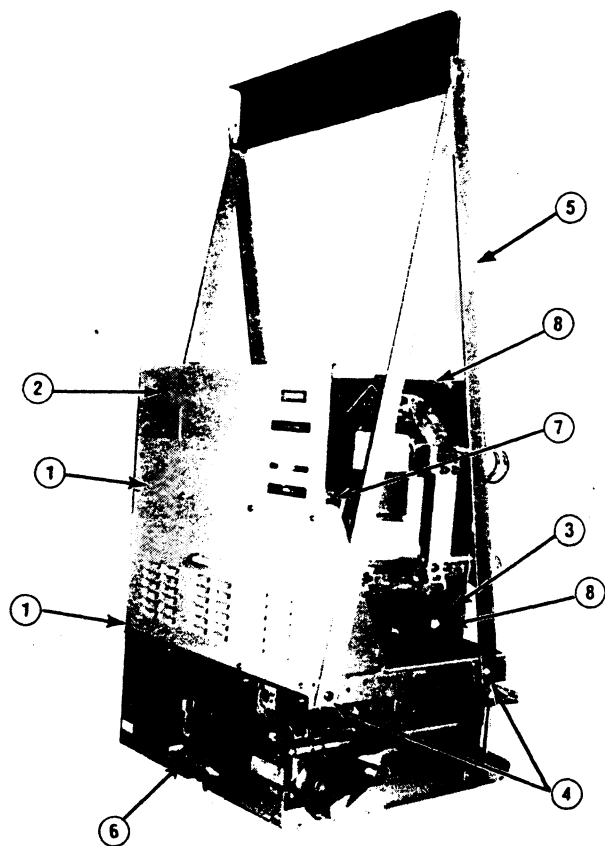

Fig. 1 — Circuit Breaker Assembly with Lifting Yoke Installed
Referring to Fig. 1, if it is necessary to raise or move the breaker, attach a lifting yoke (5) at points (4) on both sides of the truck, or a fifth wheel at point (6) to transport the breaker as required.
Inspect condition of circuit breaker vacuum interrupters and electrical connections prior to installing the circuit breaker into the switchboard. Even though each circuit breaker is completely adjusted and tested at the factory, shipping and handling conditions could cause defects. The front cover and interphase barriers (2 & 3, Fig. 1) must be removed for access to and inspection of the vacuum interrupters, and their associated adjustments.
### Removing Front Cover and Interphase Barrier (See Fig. 1)
### Installing Front Cover and Interphase Barriers (See Fig. 1)